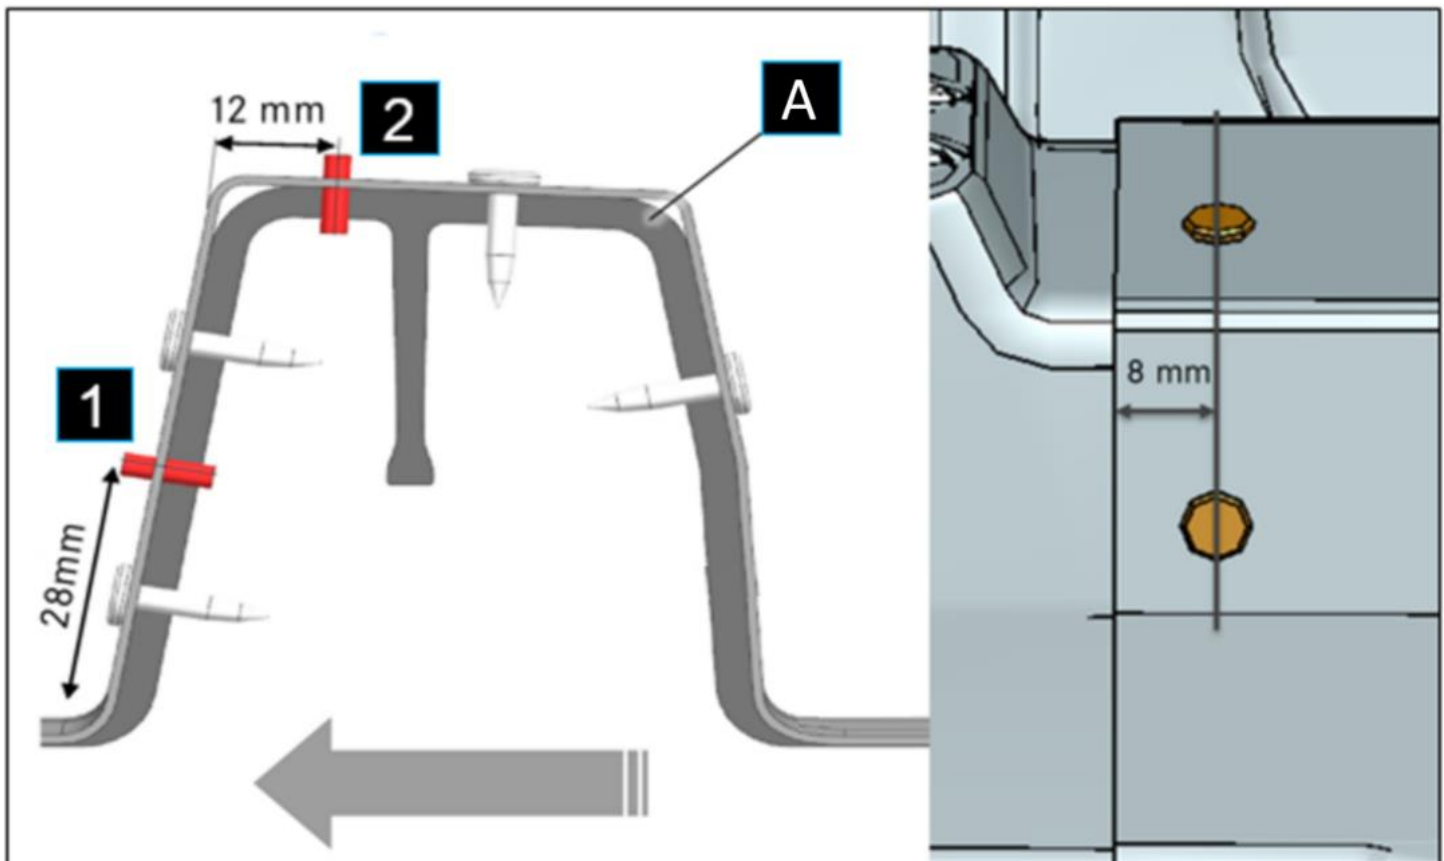

Figure 1
5. Mark rivet holes on cross-member (**A**, Figure 1).